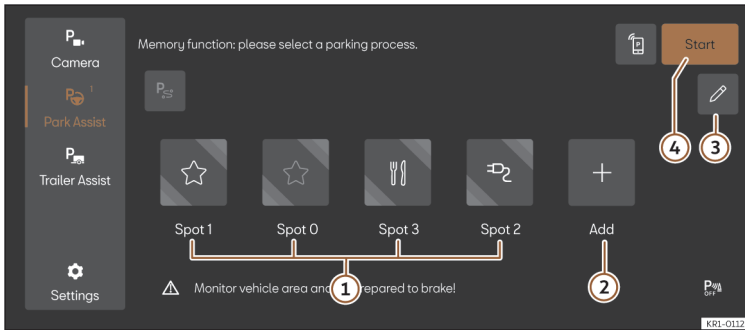

Fig. 146 Schematic representation: Parking system menu with memory function.
4. Select the function button, assign the symbol you want (>>> **Fig. 146** ) and confirm it.
2. If necessary, click on the parking space available icon in the Parking System menu >>> **Fig. 146** ①. The function button will be displayed in copper.
3. Press the **Start** button >>> **Fig. 146** ④.